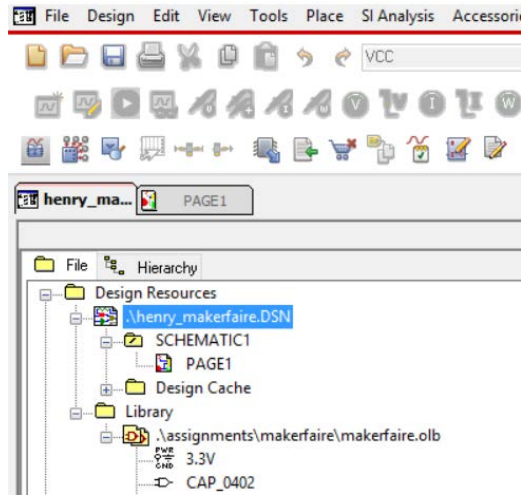

Figure 7: Design Selection
2. Go back to the project directory and select the design file *\*See Figure 7*